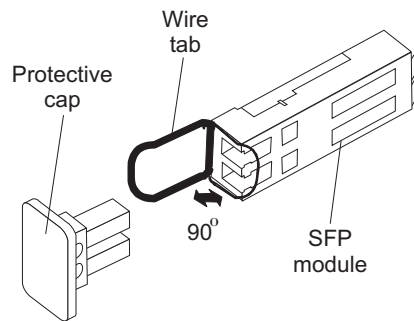

Figure 27. Unlocking the SFP module latch - plastic variety
- For SFP modules that contain plastic tabs, unlock the SFP module latch by pulling the plastic tab outward 10°, as shown in Figure 27 on page 49.